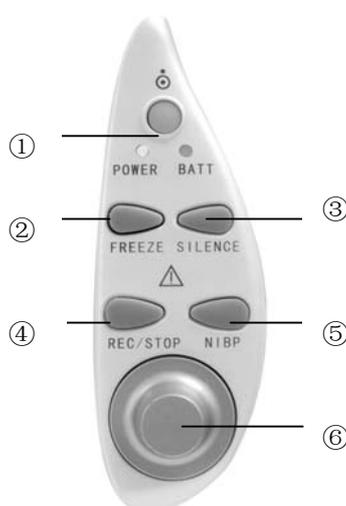

Figure 1-3 PM-8000 Buttons and Knob
All the operations to PM-8000 are through the buttons and a knob at the bottom of the screen. The names of the buttons are above them. They are (from left to right, Figure 1-3):
- POWER (Figure 1-3 ①)
- FREEZE (Figure 1-3 ②)
- SILENCE (Figure 1-3 ③)
- REC/STOP (Figure 1-3 ④)
- NIBP (Figure 1-3 ⑤)
- Rotary knob (Figure 1-3 ⑥)